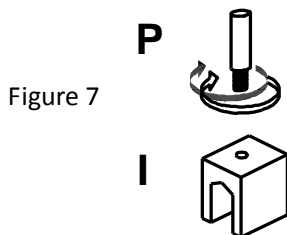

Figure 7
- Place the bottom bunk on the desired location. If needed, loosen or tighten the Adjustable Levelers on the legs of the bottom bed, so that it sits evenly on the floor. Insert (2) Smooth Metal Dowels (O) into the pre-drilled holes on top of the inner bed posts on bottom bunk. Then, screw the (2) Threaded Metal Dowels (P) into the (2) Rail Post Blocks (I), (Figure 7).